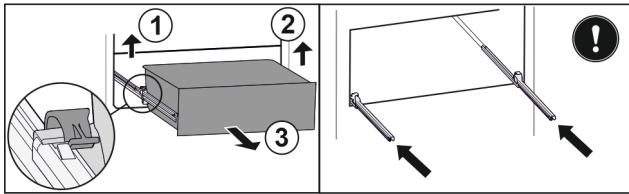

Fig. 91
- Lift left clamp and simultaneously pull drawer forwards on the left. Fig. 91 (1)
- Lift right clamp and simultaneously pull drawer forwards on the right. Fig. 91 (2)
- Remove drawer to the front. Fig. 91 (3)